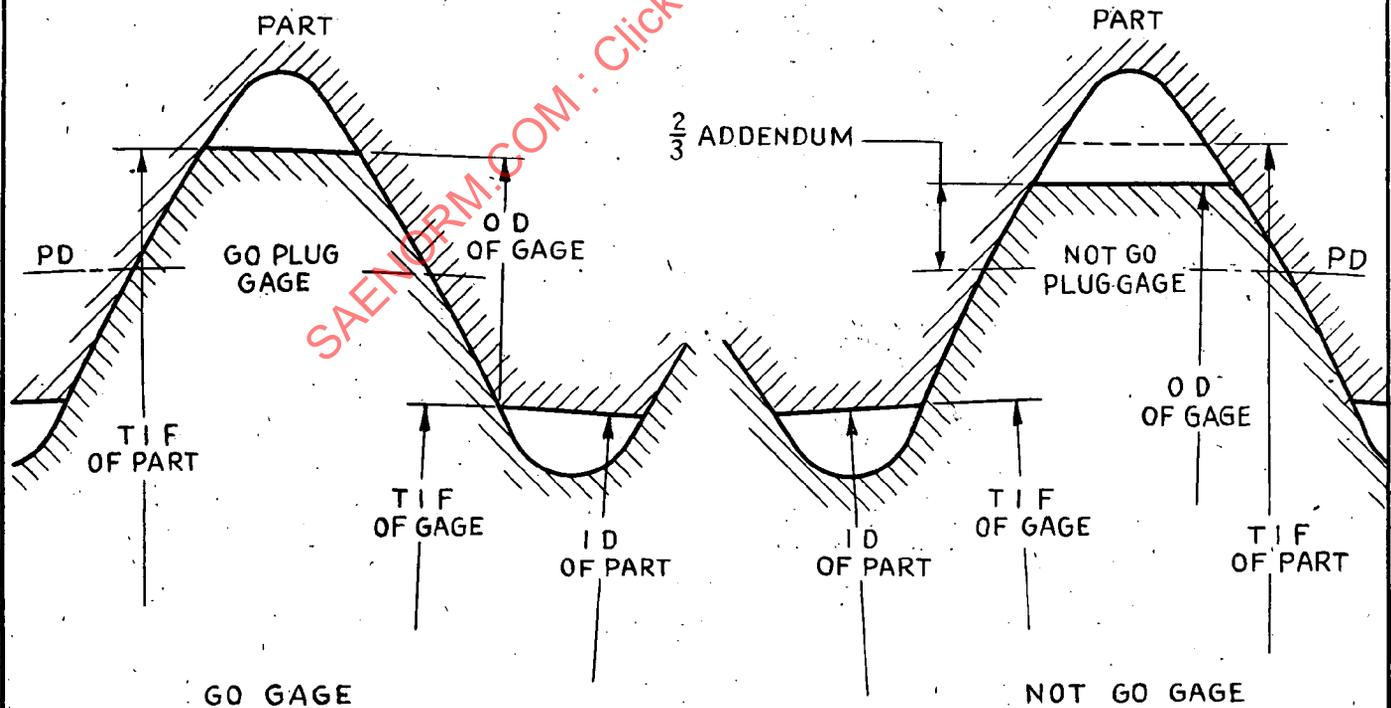

FIG 4 PLUG GAGE
- C. Figure 4 shows the relationship of the plug gage to the internal spline it is to check.